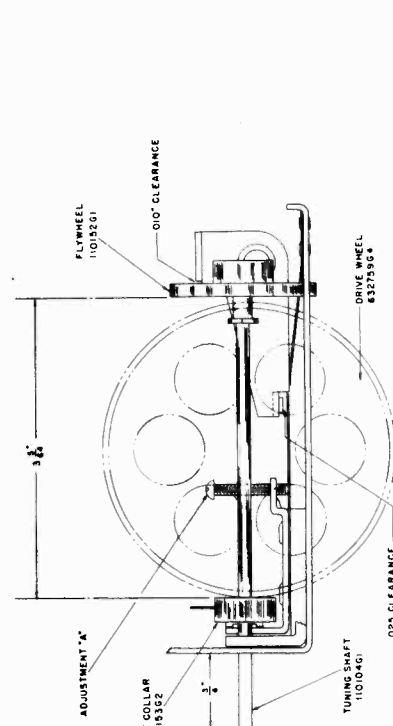
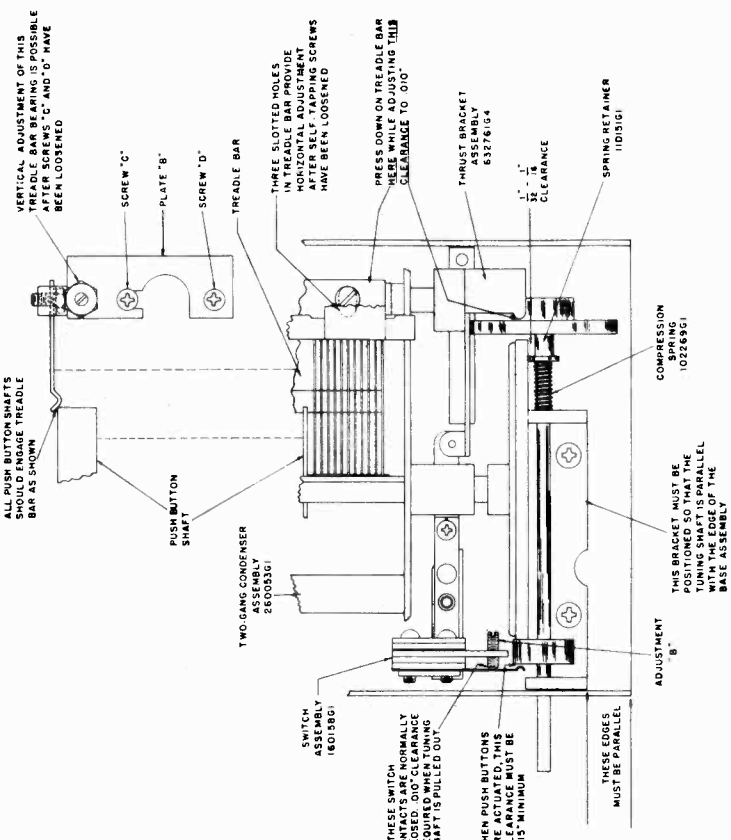

FIGURE 2
FIGURE 3
This can usually be accomplished by loosening the two screws designated "C" and "D" on Figure 3, and moving plate "B" in the direction required to correct this condition.
Whenever any of the mechanical parts in the condenser gang drive assembly require replacement due to rough handling or for any other reason, it is extremely important that clearances and adjustments shown on Figures 2 and 3 are effected; otherwise the tuning mechanism will be sluggish or it may slip during operation.
1. Assemble the Tuning Shaft, Drive Collar, Compression Spring, Spring Retainer and Flywheel in the manner shown on Figure 3. Note that the Tuning Shaft must extend 3/4" from the front of the assembly and that the spacing between the rear of the Drive Collar and the front of the Flywheel must be 3.5/64". Any excess length in the Tuning Shaft may extend beyond the rear of the Flywheel. See Figure 2.
2. The distance between the rubber-tired Drive Wheel and the smaller diameter section of the Spring Retainer must be 1/32" to 1/16" (Figure 3). This adjustment is effected by loosening the two No. 6 Allen set screws in the Drive Wheel hub and sliding the wheel on its shaft until the required clearance is obtained. When the adjustment is completed, tighten the two screws in the hub of the Drive Wheel.
3. While pressing down on the Treadle Bar at the location shown on Figure 3, adjust the Thrust Bracket until the clearance between the rear of the Flywheel and the projection on the Thrust Bracket is .010" as shown on the diagram. To make this adjustment, loosen the two No. 6 Allen set screws (use No. 6 Allen Wrench—MagnaVox Part No. 800044G2) in the hub of Thrust Bracket and rotate the bracket until the specified clearance is obtained when the push buttons are NOT actuated. Tighten the two screws securely when the adjustment is completed. Press each push button and check that the Drive Collar is pushed away from the rubber-tired Drive Wheel.
4. Next, adjust the clearance in the muting switch contacts by turning the Phillips-head screw designated Adjustment "A" on Figure 2, until the specified clearance of .025" is obtained (when the push buttons are NOT actuated).